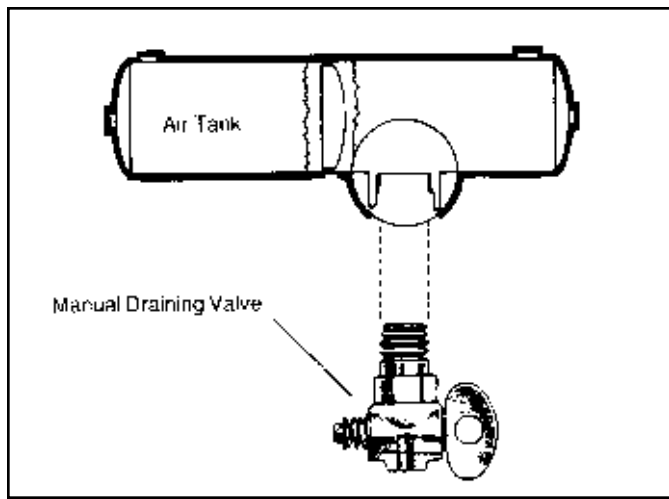

Figure 5-1
- **Manual** - Operated by turning a quarter turn, shown in Figure 5-1, or by pulling a cable. You must drain the tanks yourself at the end of each day of driving.